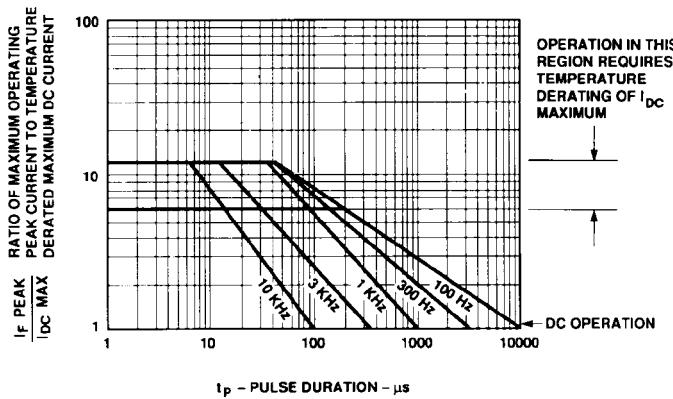

Figure 1. Maximum Tolerable Peak Current vs. Pulse Duration – Red.
1. See Figure 1 to establish pulsed conditions.